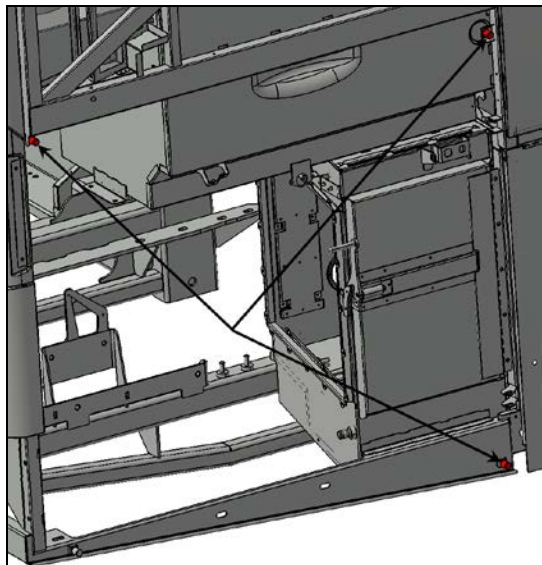
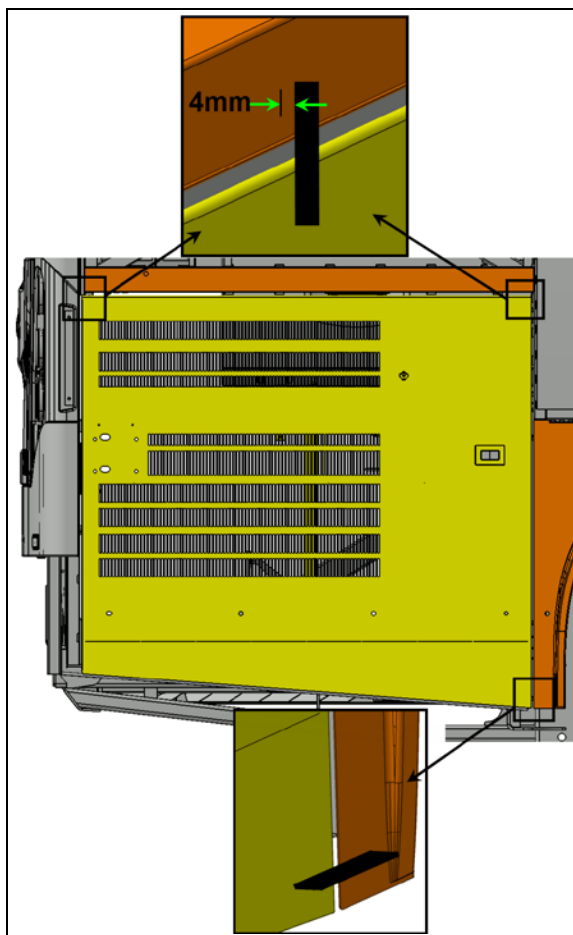

FIGURE 123
FIGURE 124
18. Screw in or out the two upper stoppers so that the upper part of the door exceeds the horizontal member by $5/32$ " to $3/16$ " (4mm to 5mm) (see FIGURE 123 & FIGURE 124).